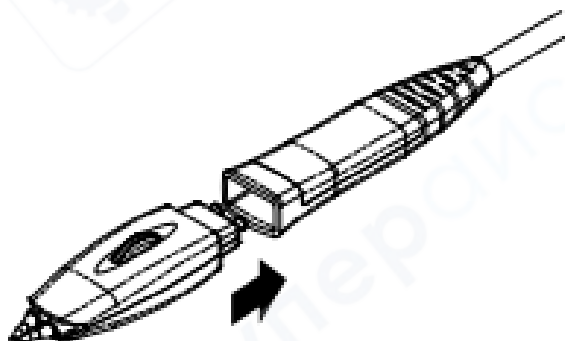

Figure 4.7 To Connect the Probe Head to the Preamp of the Active Probe
1. Connect the probe head to the preamp of the active probe, as shown in *Figure 4.7*.